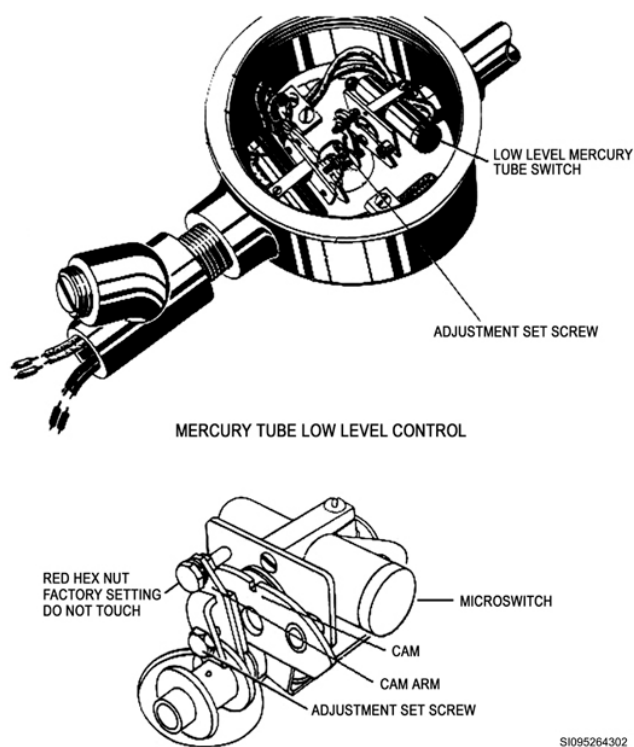

Figure 1-16. Low-level mercury switch and cam-actuated microswitch.
The low-level control protects the pump when the tank is nearly empty (13 inches from the bottom of the tank) by shutting off the fueling pump motor before the pump runs dry of fuel. A low-level control switch (fig. 1-16) is mounted alongside and connected to the gauge head of the liquidometer. A shaft extends from the gauge head to the control assembly. The two types of low-level control switches used are the (1) mercury tube switch and (2) cam-actuated microswitch.
The mercury tube switch (fig. 1-16, top) is attached to a shaft controlled by the linkage in the gauge head. As the shaft is rotated, the mercury tube also rotates. There are two filaments in the tube that are submerged in mercury to complete (close) the electrical control circuit. The mercury tube is positioned (pre-adjusted) on the shaft at an angle that makes it correspond to the reading on the liquidometer dial. When fuel is being withdrawn from the tank, the mercury tube rotates with the shaft. When the fuel level in the tank lowers to about 13 inches from the bottom of the tank, the mercury tube is at an angle that causes the mercury to flow away from the two filaments inside the tube. When the ends of the filaments are no longer submerged in mercury, the electrical control circuit is opened. This stops the deep-well pump motor. The pump motor will not start again until enough fuel is put back into the tank to change the position of the mercury tube. When the fuel level does rise, the tube rotates in the opposite direction. This action allows the mercury to flow back and
In the cam-actuated microswitch low-level control (fig. 1-16, bottom), you will find a cam positioned (pre-adjusted) on a portion cut out around its outer edge. This serves as the low side of the cam. The microswitch (normally CLOSED) is wired into the pump motor control circuit and is positioned next to the cam. A control lever (roller) rides against the outer edge of the cam on the low side and allows the set of contacts in the microswitch to remain closed. As long as the contacts are closed, the pump motor operates. When the liquid level in the tank lowers to 13 inches, the cam rotates, and the control lever rests against the high side of the cam. This movement of the control lever towards the microswitch opens the electrical contacts. Now the pump motor stops. It will *not* start again until the cam rotates back a few degrees in the opposite direction. This rotation repositions the control lever on the low side of the cam, and the electrical contacts in the microswitch close again.